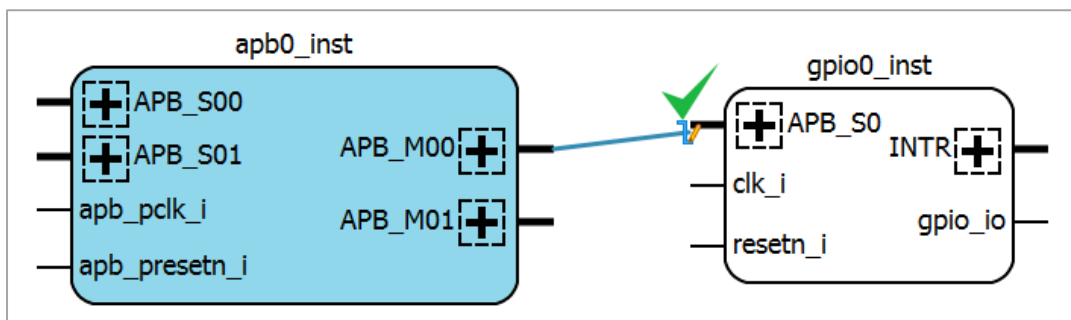
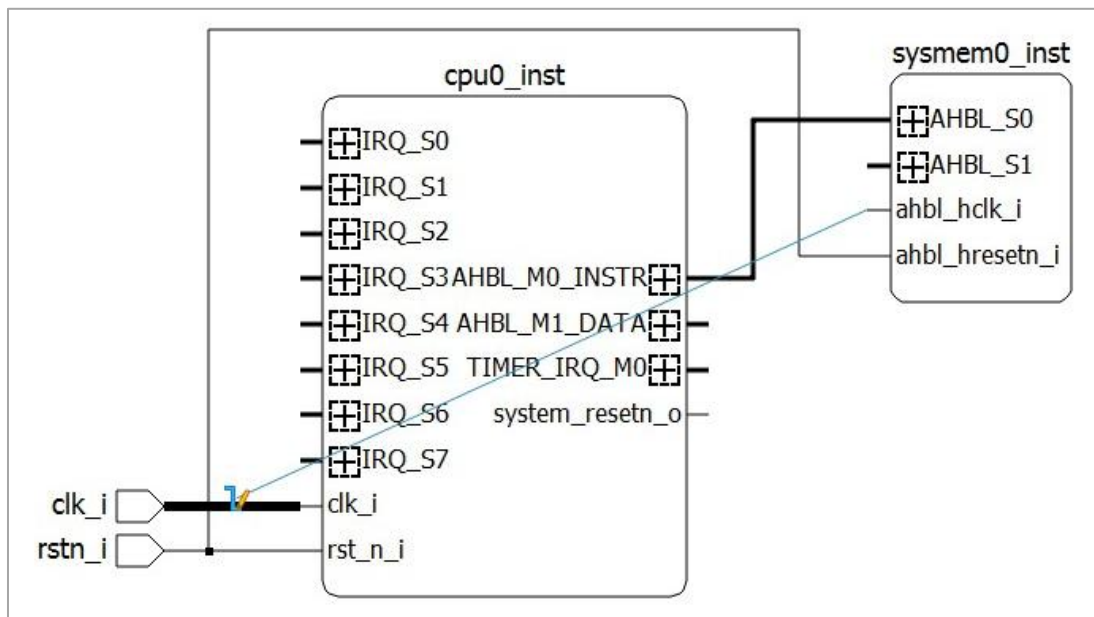

Figure 2.90. Draw a Pin or a Port
Figure 2.91. Draw Nets
1. Move the cursor to a pin or port. The cursor changes to a pencil icon . Click and hold while dragging to another pin, port, or net. An allowed pin or port shows a green checkmark when you hover over it (Figure 2.90). An allowed net becomes bold when you hover over it (Figure 2.91).